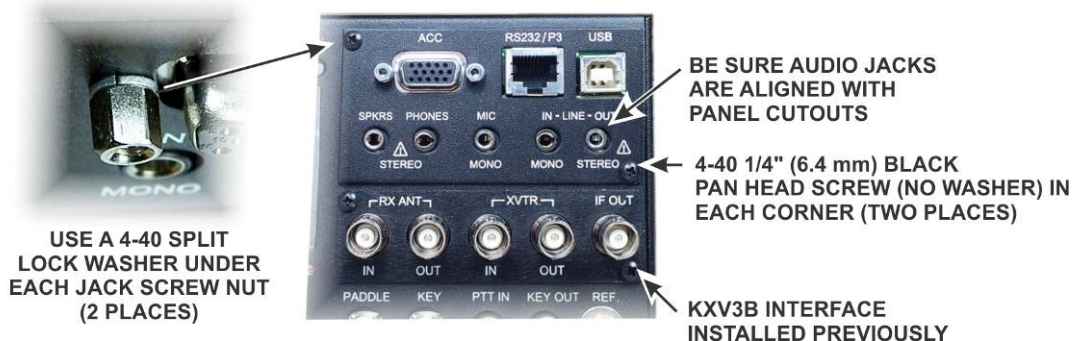

Figure 60. Mounting the KIO3B Connector Panel.
- The DB9 multi-pin connector on the KIO3B Digital I/O daughter board may have jackscrew nuts installed on the connector. (Jackscrew nuts are shown in Figure 60). If so, remove them. They will be reinstalled shortly.
- Install the KIO3B rear panel as shown in Figure 60. Start with the pan head screw nearest the side panel. When it is started a few turns fit the panel over the connectors and align it to start screw in the opposite corner, then add the jack screw nuts. Start all of the fasteners before tightening any of them.